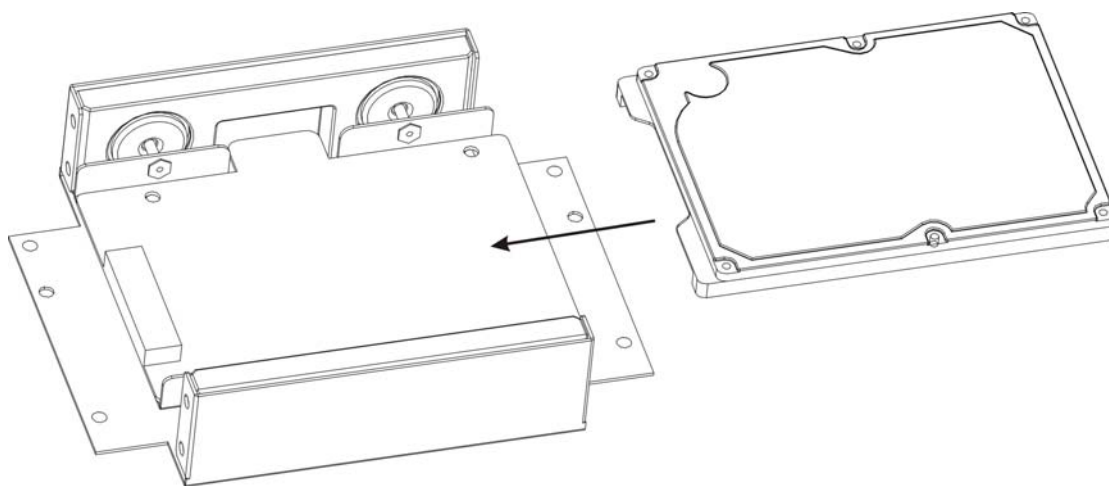

Figure 2-15
3) Now you can see an interface is shown as below after you removed the bracket. Remove the four bolts from the HDD. Follow the direction arrow in Figure 2-15 to install the HDD and secure the bolts.